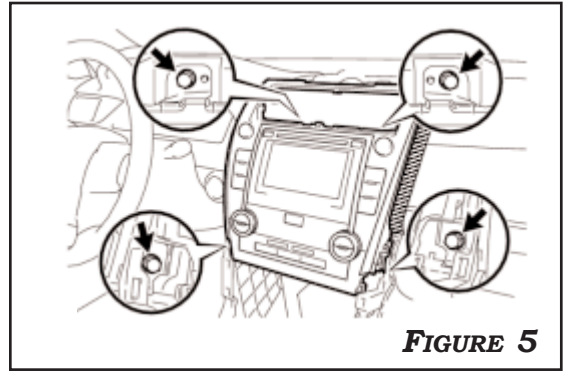

FIGURE 5
5. APPLY PROTECTIVE TAPE AND REMOVE THE 4 (10MM) BOLTS. PULL THE RADIO RECEIVER ASSEMBLY WITH AIR CONDITIONING CONTROL ASSEMBLY TOWARD THE REAR OF THE VEHICLE AND DISENGAGE THE CLIPS. DISCONNECT EACH CONNECTOR AND REMOVE THE RADIO RECEIVER ASSEMBLY WITH AIR CONDITIONING CONTROL ASSEMBLY. **FIGURE 5**